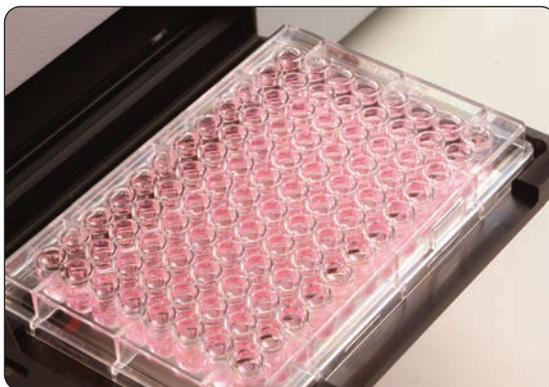

Figure 6: Reading the assay plate
STEP 5: Read the plate immediately in a fluorescence plate reader, with the set-up as described in Appendix A - Instrument Settings (Figure 6). The plate should be measured kinetically for >90 minutes. When measurement is completed, remove the plate and save measured data to file.